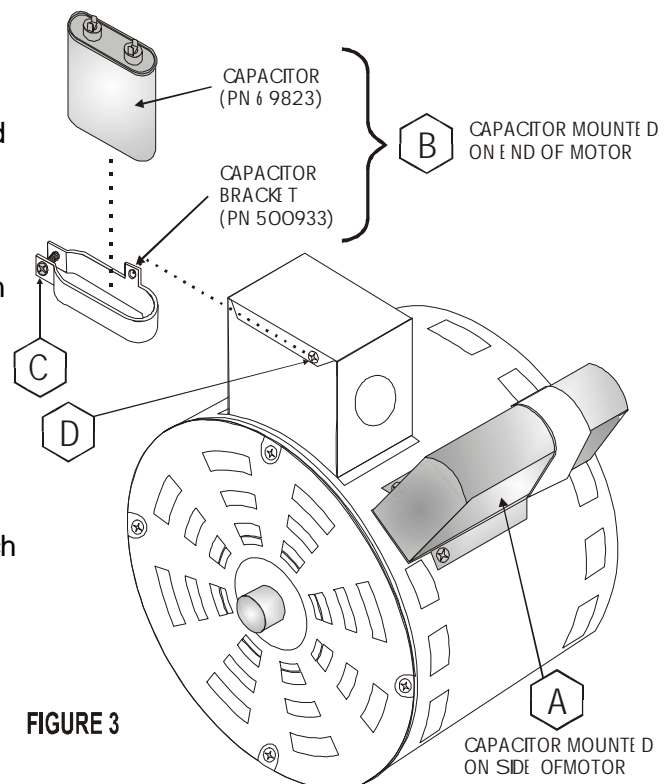

FIGURE 3
**NOTE:** Early units had the motor capacitor installed directly on the side of the motor, which resulted in a higher operating temperature. By relocating the capacitor to the end of the motor, the motor cooling fan also cools the capacitor, helping to increase capacitor life. With mounting bracket p/n 500933, or kit # 500952, the capacitor can be relocated as shown in figure 3.